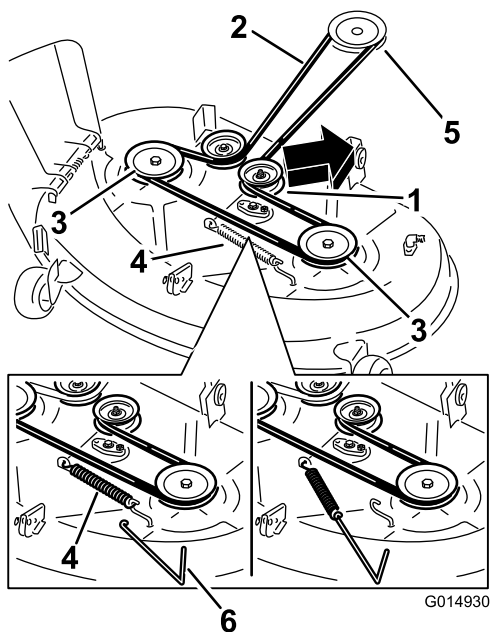

Figure 63
5. Using a spring-removal tool (Toro Part No. 92-5771), remove the idler spring from the deck hook to remove tension on the idler pulley, and roll the belt off the pulleys (Figure 63).
6. Route the new belt around the engine pulley and mower pulleys (Figure 63).